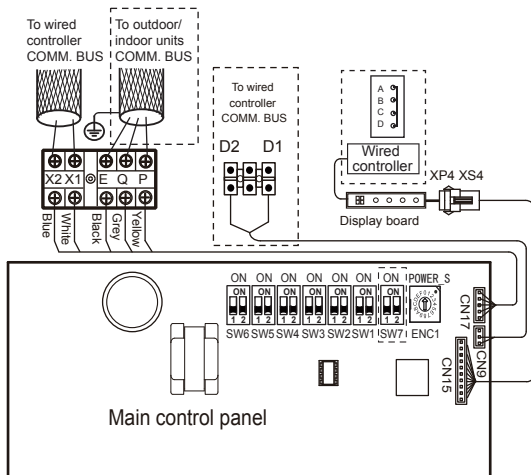

Figure 6.10
- The X1/X2, D1/D2 ports on the sides of the main control board and the unidirectional communication port (display board side) are for different types of wired controllers (see Figure 6.10).